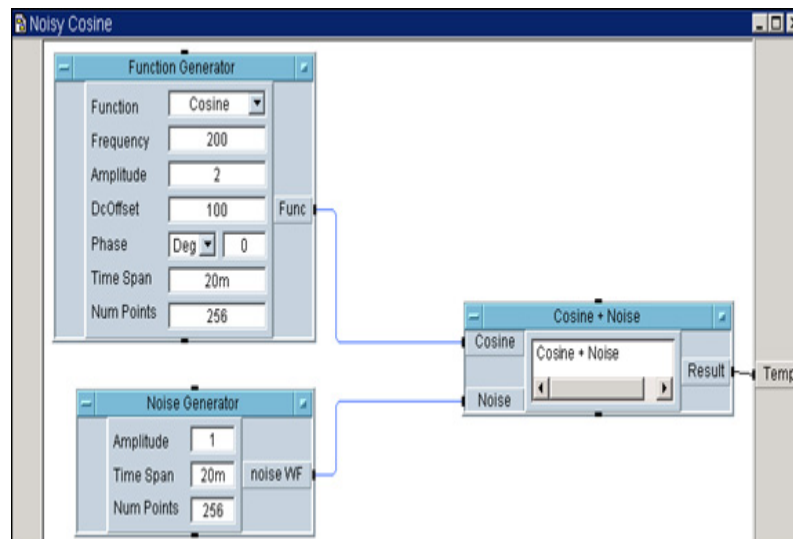

Figure 1-16 The Completed Noisy Cosine UserObject
- 6 Go to the dark blue horizontal top bar and click on the mouse right button; select Add Terminal, Data Output. (An X will appear on the right edge of the UserObject.) Change the X to Temp. See Figure 1-16.
- 7 Connect the Cosine + Noise Result output pin to the Temp output pin. See Figure 1-16.